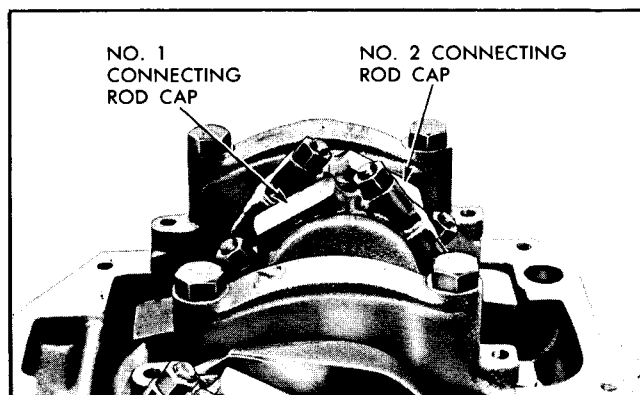

Fig. 6-150 Crankshaft Positioned for Removal of No. 1 and 2 Connecting Rod Caps
3. Rotate crankshaft as necessary to bring crank pin carrying bearing to be replaced straight down (Fig. 6-150).
3. Rotate crankshaft so crank pin carrying assembly to be replaced projects straight downward (Fig. 6-150).